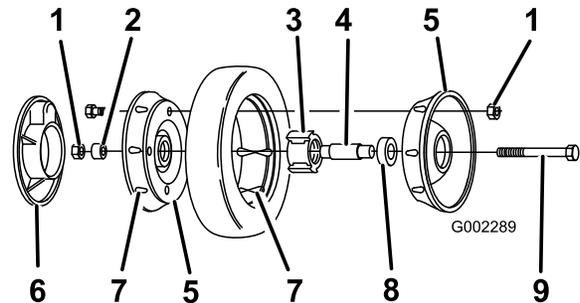

Figure 31
3. Remove the bolt, the wheel spacer, and the locknut mounting the wheel to the pivot arm (Figure 31).
4. Separate the wheel halves from the tyre by removing 4 cap screws and 4 locknuts (Figure 31).
Note: If you remove the bearings from the bearing/hub assembly, remove them by pressing on the bearing spacer (Figure 31).
1. Position the tyre onto one wheel half, aligning the lugs on each (Figure 31).
2. Place the bearing/hub assembly into the center hole of the wheel half. Ensure that the legs of the hub are positioned over the flange of the hole (Figure 31).
3. Place the other wheel half onto the bearing/hub assembly, aligning the wheel and the tyre lugs and the mounting holes (Figure 31).
halves together. Mount the screws or bolts in the opposing holes (Figure 31).
5. Check the alignment of all parts and tighten the screws, alternating from side to side for a uniform fit, until the wheel halves are drawn together (Figure 31).
6. Install the 2 bolts and 2 locknuts previously removed in the remaining holes in the wheel halves and tighten. Remove the 2 long screws or bolts and replace them with 2 bolts and 2 locknuts (Figure 31).
7. Install the wheel to the pivot arm with the bolts, a spacer, and a locknut. Ensure that the spacer is positioned between the wheel hub and the pivot arm (Figure 31).